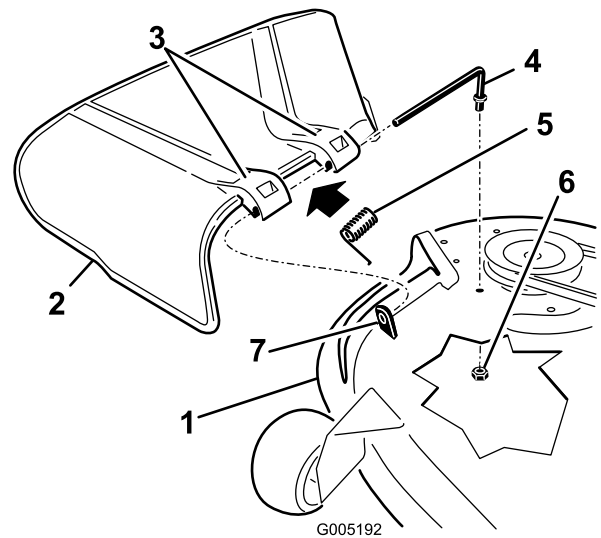

Figure 47
1. Locate items shown in Figure 47.
2. Remove the nut (3/8 inch) from the rod under the mower (Figure 47).
3. Slide the rod out of the short stand-off, spring, and grass deflector (Figure 47). Remove the damaged or worn grass deflector.
4. Replace the grass deflector (Figure 47).
6. Place the spring on the rod, with end wires down, and between the grass deflector brackets. Slide rod through second grass deflector bracket (Figure 47).
7. Insert rod at front of grass deflector into short stand-off on deck. Secure rear end of rod into the mower with a nut (3/8 inch) (Figure 47).